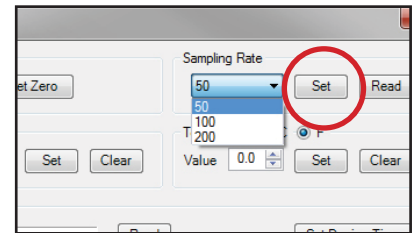

**Figure 20: Use Edit Menu to Access Device Control Window to Set Sampling Rate per Second**
2. Select Device Control and a Device Control window (Figure 20) appears on the screen.